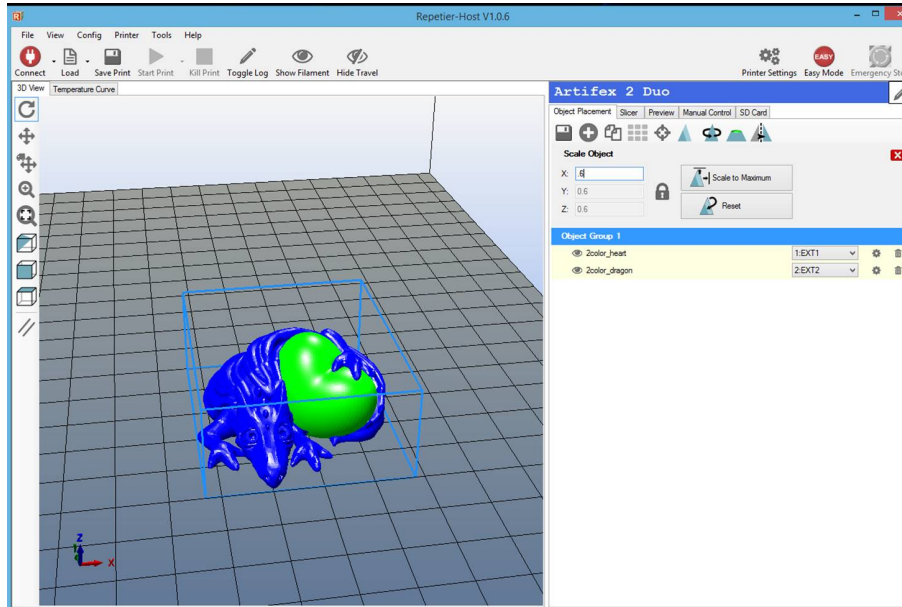

Figure 6.15: Scaling the merged two-color model
- The merged two-color model can be operated as a regular one color model. In Figure 6.15, the merged model is scaled down to 60% of its original size.
- Then, the model is ready for slicing using the slicer of your choice (Figure 6.15).